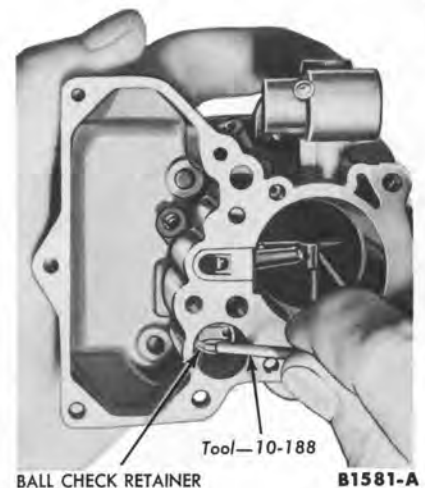

FIG. 25—Accelerating Pump Inlet Ball Check Retainer Removal
10. Using a hook puller (tool-10-188), remove the accelerating pump inlet ball check valve retainer (Fig. 25). Invert the main body, allowing the ball check valve to fall out into the hand.